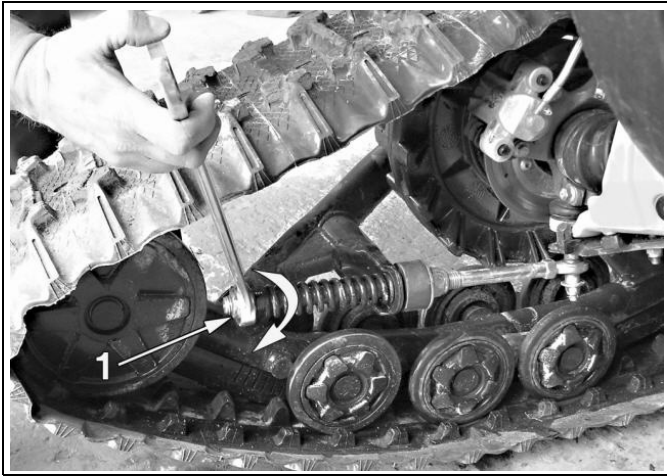
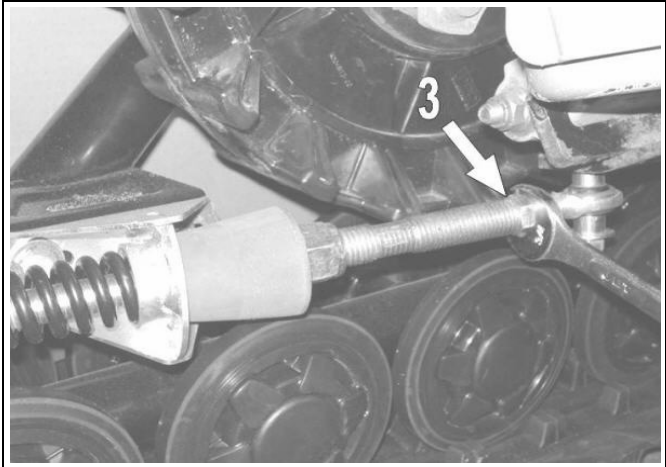

Figure 6
Figure 7
- Turn the nut (1) until it comes in contact with the spring, then compress the spring by turning this nut 1.5 turns (refer to Figure 6).
NOTE: In certain rare cases, where the adjustment of the nut (article 1 on Figure 6) compressing the spring, is close to the end of the threaded rod, lengthen the assembly by loosening the locknut (article 3 on Figure 7) and unscrewing the rod end so that a maximum 19 mm of its threads are visible. Make sure that the locknut is well tightened after the installation.